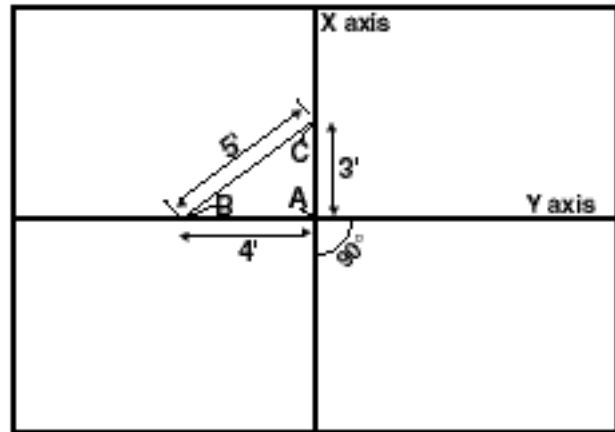

figure 1-1
The most common layout of parquet is with edges of parquet units and the lines they form square with the walls of the room. (see figure 1-1)
Start by snapping a chalk line through the center of the room (line Y (see figure 1-1)). The next line (X) must be exactly 90 degrees to line Y to form a perfect square corner. To ensure this angle, do the following:
1. From the center point (A) of line Y, measure 4 feet along line Y and mark that point (B).